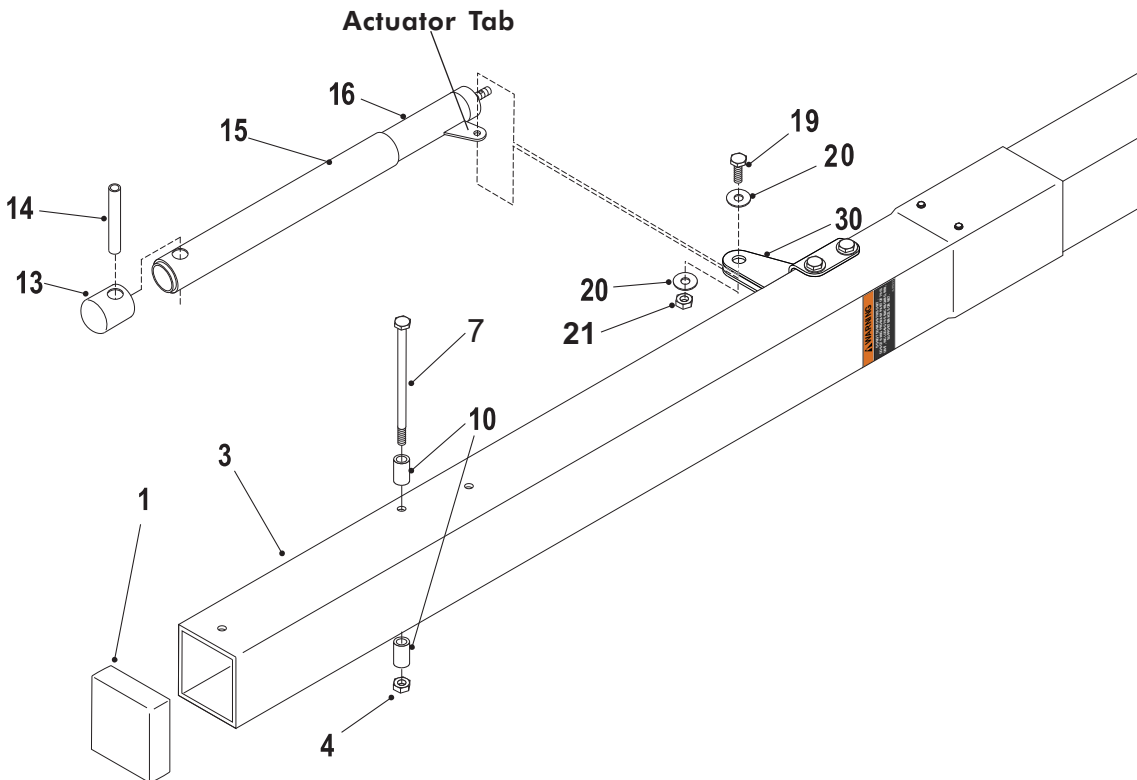

Figure 6
- If not already pre-assembled, slide Plastic Actuator Sleeve (#15) over Steel Actuator (#16) and place Actuator Cap (#13) on top. Align holes in all 3 parts and slide Pivot Tube (#14) through holes in Actuator Cap (#13), Plastic Actuator Sleeve (#15) and Steel Actuator (#16) until equal amounts stick out through both sides of actuator. See **Figure 6**.
- While still on the two padded saw horses, Slide tab on Actuator (#16) between Post Ears (#30) and secure using one bolt (#19), two washers (#20) and one lock nut (#21). Tighten Lock Nut (#21) snug but **do not over tighten**. See **Figure 6**. At this time **also tighten nuts (#4) from Step 4**.
- Secure two stop spacers (#10) to pole, as shown in Figure 6, using one hex bolt (#7) and one lock nut (#4). Tighten Lock Nut (#4) but **do not over tighten**.